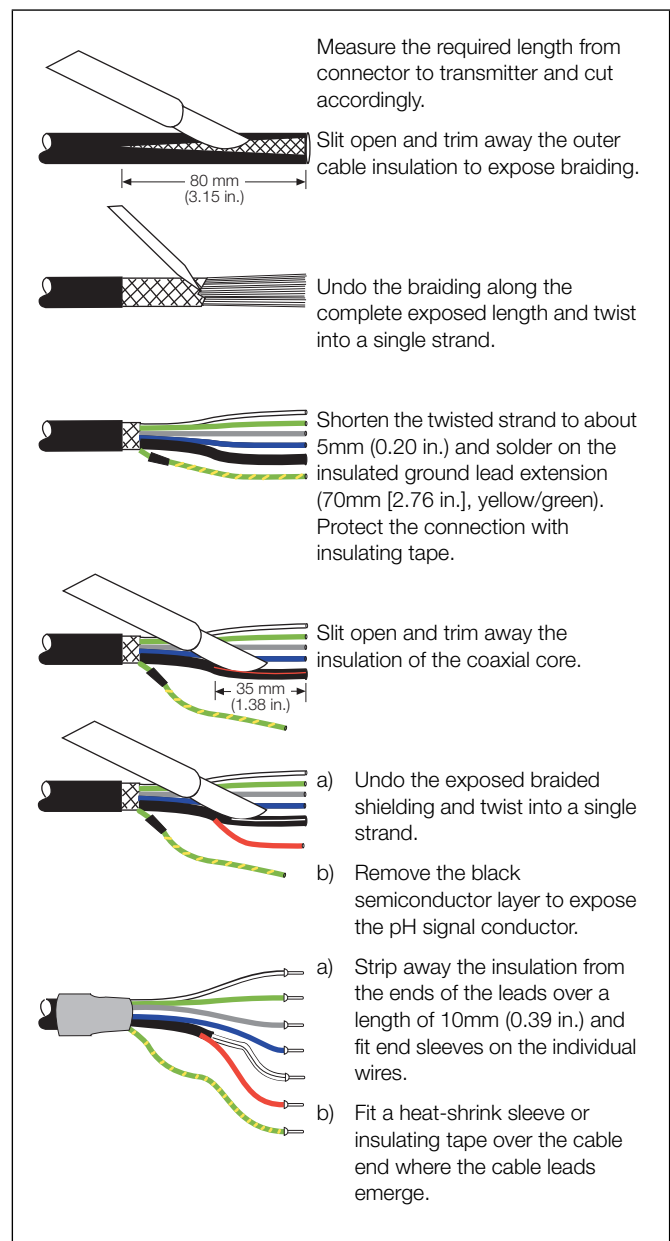

Fig. 3.2 Shortening the Connection Cable
The connection cable is supplied in various standard lengths. If it is necessary to shorten the cable, prepare the cable ends as shown in Fig. 3.2.
- Cable 7690054 is identical to that fitted to the sensor. See Fig. 3.2 for cable end preparation instructions.